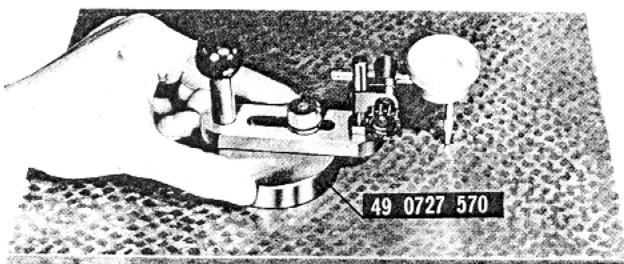

Fig. 9-22 ZERO setting
1. Install the dial indicator to the gauge body. Place the gauge body on the surface plate as shown in Fig. 9-22 and lock the dial indicator by the screw so that the needle is pointing toward 1 to 3 mm. Then, set the reading to "Zero" by turning the outer ring of the indicator.